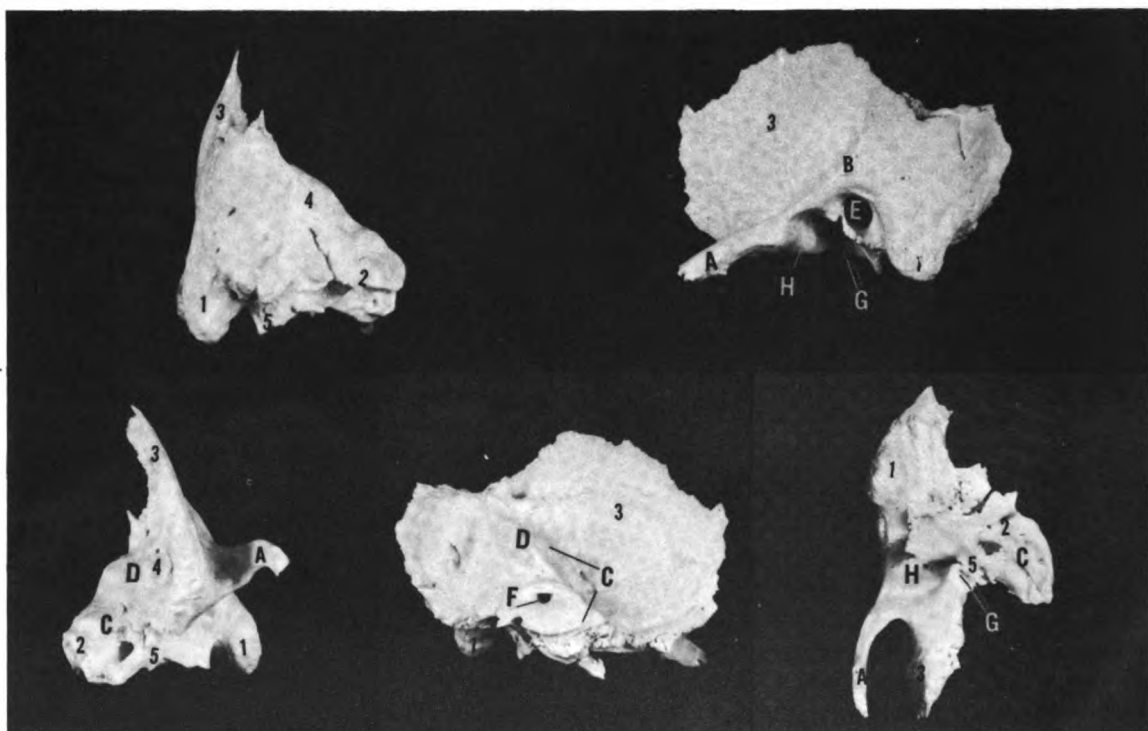

Figure 4-28 Parts of the Temporal Bone
cess (A) of the temporal bone. This process extends anteriorly and joins with the zygomatic bone to form the zygomatic arch. You can feel this arch on the side of your face as the cheekbone. Extending behind the zygomatic process posteriorly is the supramastoid crest (B). It runs up obliquely on the posterior part of the squama (Figure 4-28).